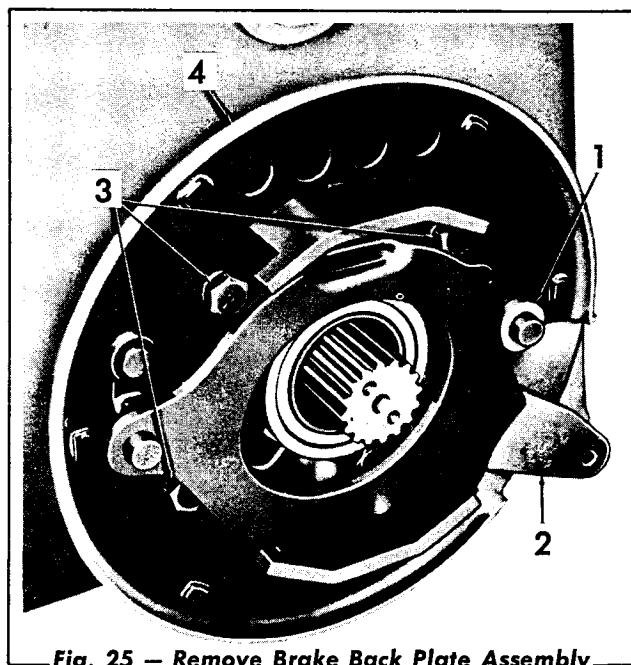

Fig. 25 - Remove Brake Back Plate Assembly
8. Remove the brake roller (Fig. 25) and the brake apply lever. Remove the capscrews and lockwashers and remove the back plate.